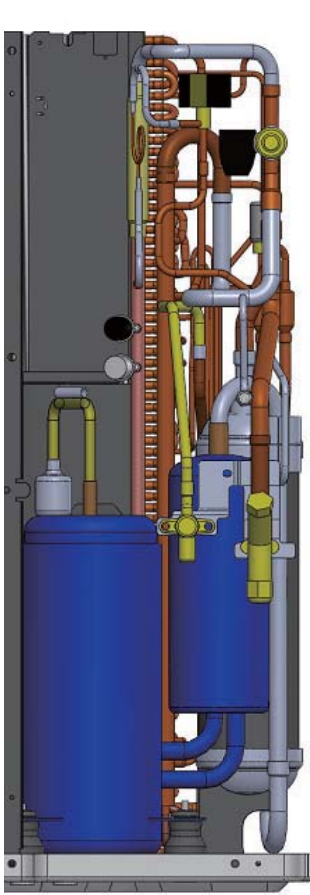

Figure 3.1
Step 1: Dismantle external sheet metal, electrical box assembly, stop valve mounting plate completely, and remove the compressor sound-proof shield and crankcase heater, the final is as shown in figure 3.1.